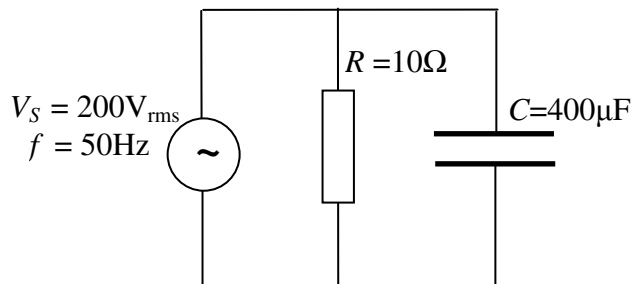

Figure 1.1
- a. An electrical load consisting of a resistance, $R = 10\Omega$, in parallel with a capacitance, $C = 400\mu\text{F}$ is connected across a 200V_{rms} , 50Hz sinusoidal supply, V_S , as shown in Figure 1.1.